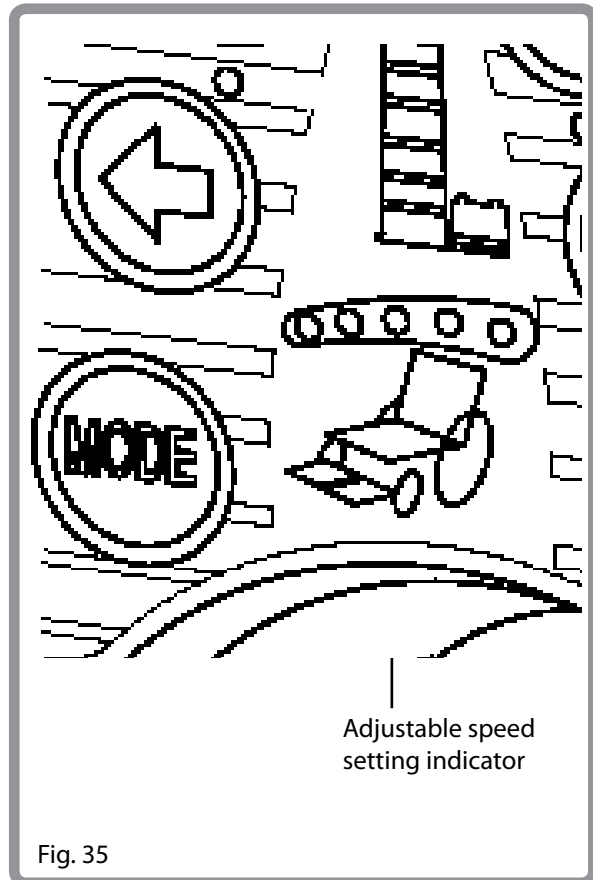

Fig. 35
1. Press the mode button until the speed settings indicator is flashing (Fig. 35).